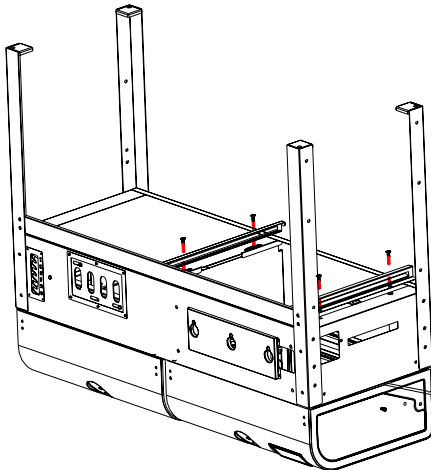

Fig. 5
Refer to Fig. 5 and attach the Brackets as shown using (4) M6x15 bolts.